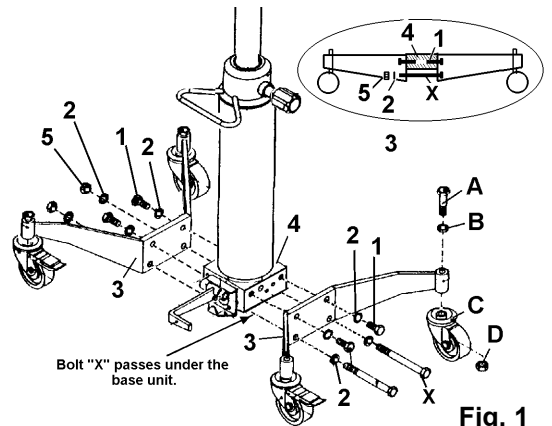

Fig. 1
- 3.1.1 Unpack the product and check contents. Should there be any damaged or missing parts contact your supplier immediately. Refer to Fig. 1.
- 3.1.2 Assemble wheels as in Fig. 1, items A,B,C & D.